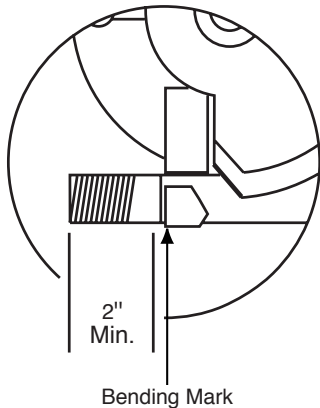

Figure 18. Bending Mark
2. Mark the conduit to the desired length. Note that a 2" minimum dimension is required to eliminate flattening the end of the conduit. See Figure 18.